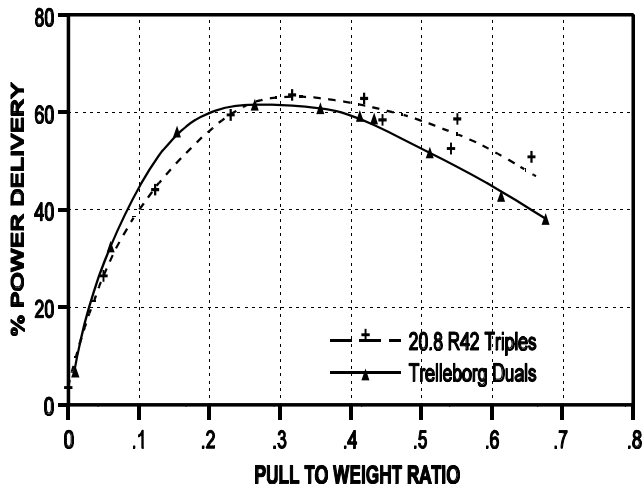
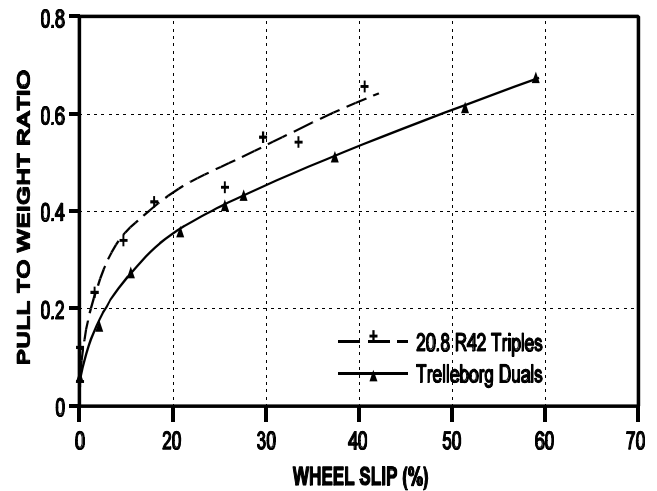

Figure 1.
Figure 2.
Figure 1 shows a comparison of power delivery efficiency across a range of pull for Trelleborgs and a set of 20.8 R42 radial triples.
- Pulling ability is the ability to generate horizontal force at the drawbar. As pull increases, the percent slip, or the amount of lost motion between the tire and the ground also increases. At the same percent slip Trelleborgs pulled less than radial tires. In one example, where the radials reached a pull-to-weight ratio of .4 at 10% slip, the Trelleborgs were only at .35 and did not reach .4 till 15% slip. Figure 2 shows a comparison of pull-to-weight across the slip curve for the same test shown in Figure 1.